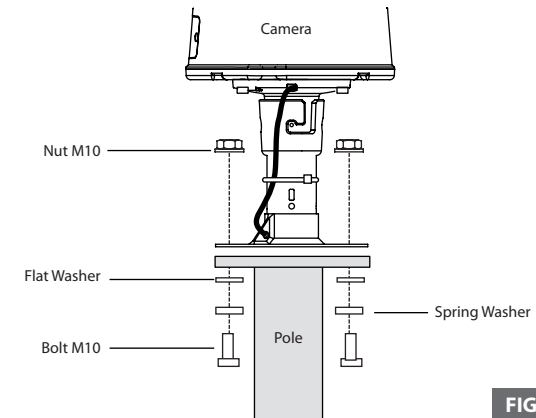

FIG. 5
- Adjust the camera and Pole Stand to M10 x 45 Bolt and Flat Washer, Spring Washer. And then tight enough with Nuts. (FIG. 5)